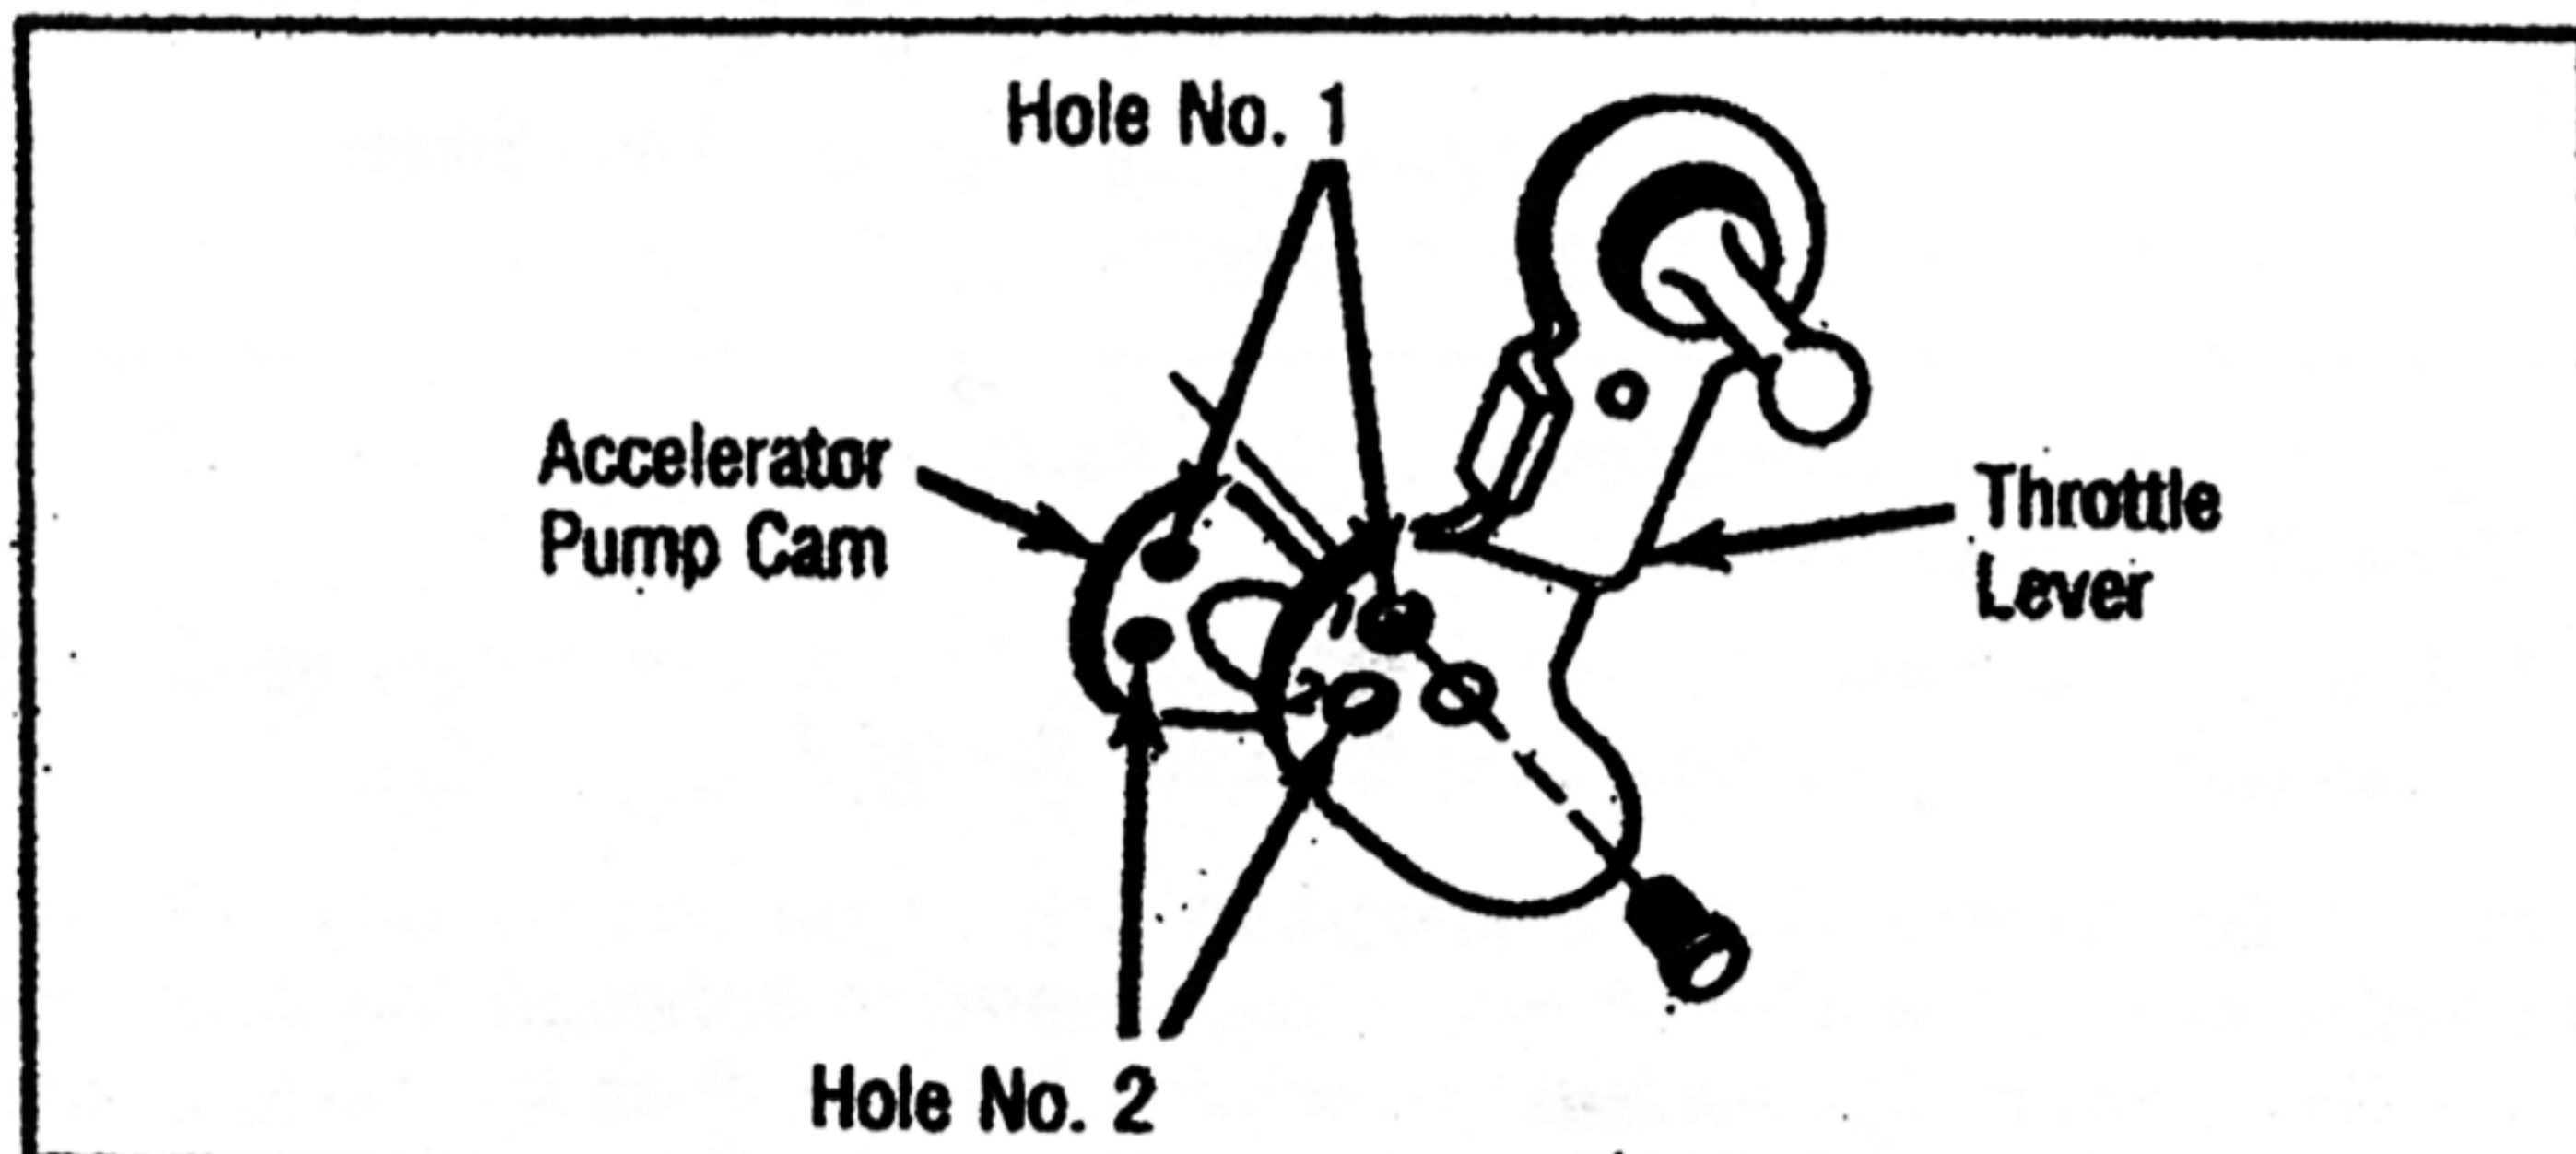

Fig. 6 Accelerator Pump Stroke Adjustment
- Check accelerator pump cam to ensure cam retaining screw is positioned in specified hole in throttle lever. See Fig. 6.